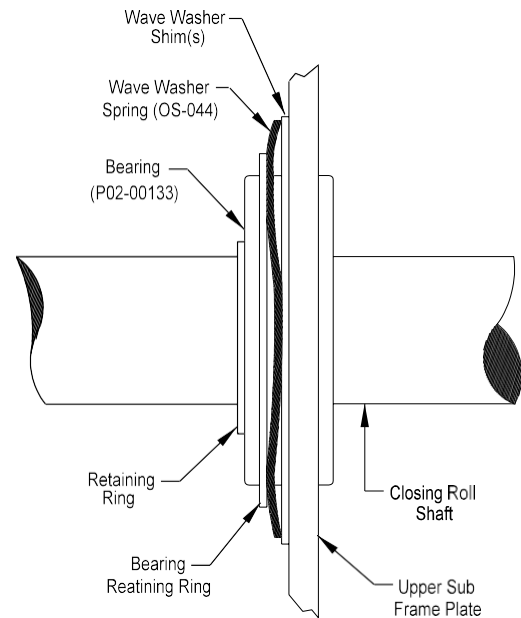

Figure 4.6
D. WAVE WASHER SHIM WITH OS-044 WAVE SPRING (Figure 4.6)